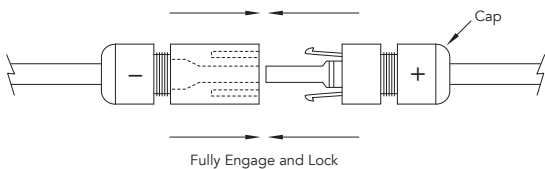

Figure 7: Connector of the plugs
Yingli Solar GG modules are provided with two (2) stranded, sunlight resistant output cables that are terminated with PV connectors ready for most installations. The positive (+) terminal has a female connector while the negative (-) terminal has a male connector. The module wiring is intended for series connections [i.e. female (+) to male (-) interconnections, see Figure 7], but can also be used to connect suitable third-party electrical devices that may have alternative wiring configurations so long as the manufacturer's instructions are followed.